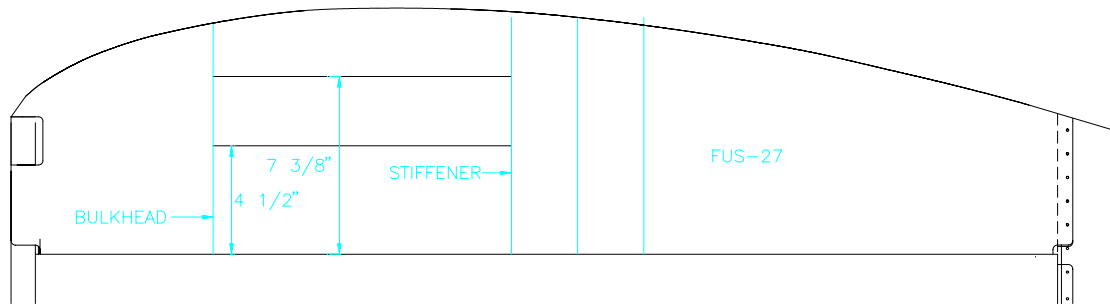

Figure 15.15.8
14) Layout and drill #40 rivet lines on the left side FUS-27 Cabin Rib. Figure 15.15.8.